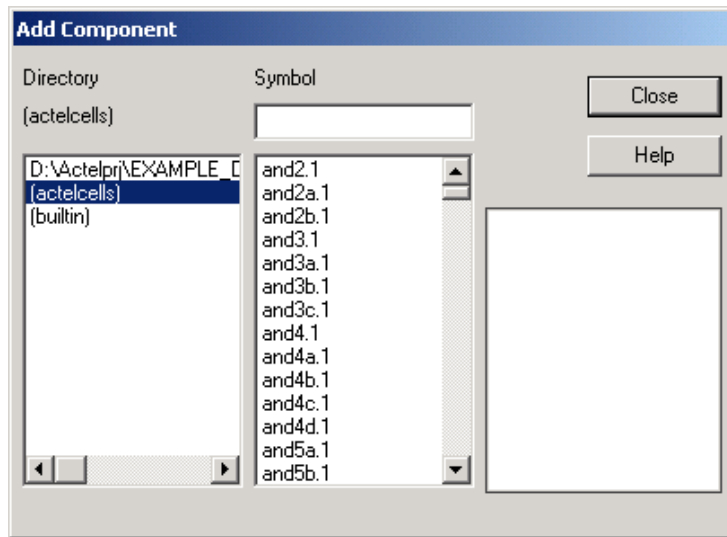

Figure 4. ViewDraw's Add Component dialog box
- From ViewDraw, choose *Add* from the Component menu. The Add Component dialog box appears as in Figure 4.